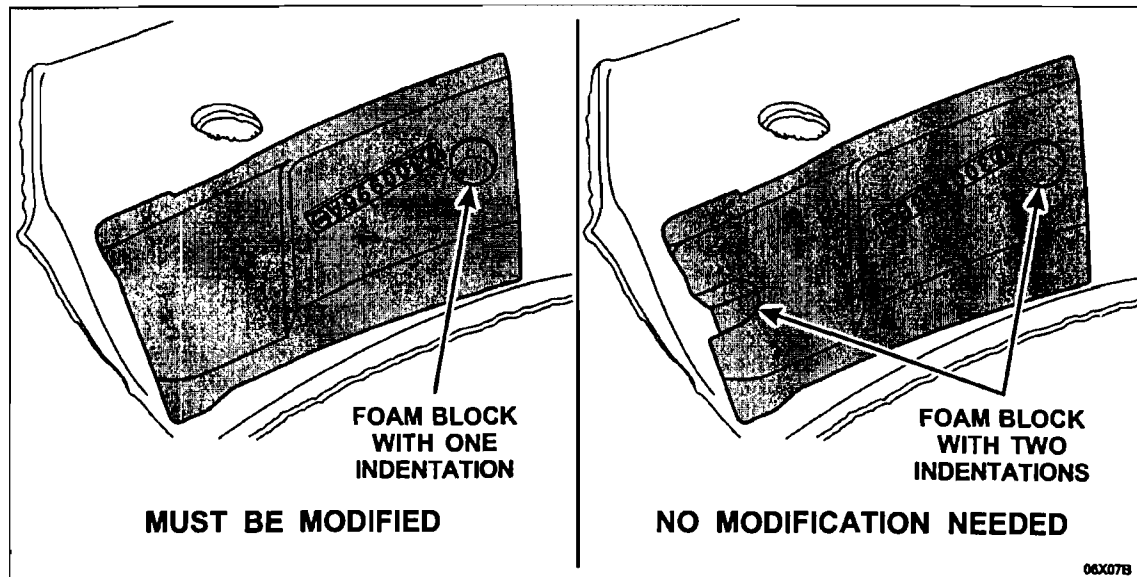

FIGURE 2
1. Without pulling the headliner down beyond its natural hanging rest position, carefully inspect the structural foam blocks mounted at the passenger and drivers side front corners on the top of the headliner to see if they have one (1) or two (2) indentations. See Figure 2.